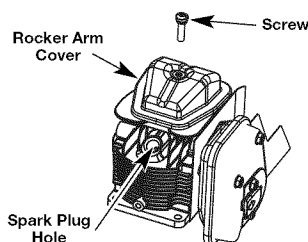

Fig. 29
5. Clean dirt from around the rocker arm cover. Remove the screw holding the rocker arm cover with an appropriate screwdriver (Fig. 29). Remove the rocker arm cover and gasket.
- The piston is at the top of its travel. Look in the spark plug hole to view the piston (Fig. 29).